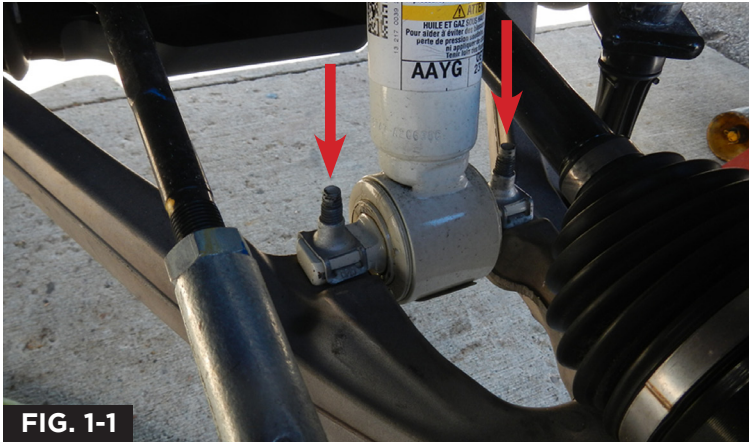

FIG. 1-1
2. Temporarily disconnect linkage from upper control arm bracket with 10mm open-end wrench. (Fig 1.1)